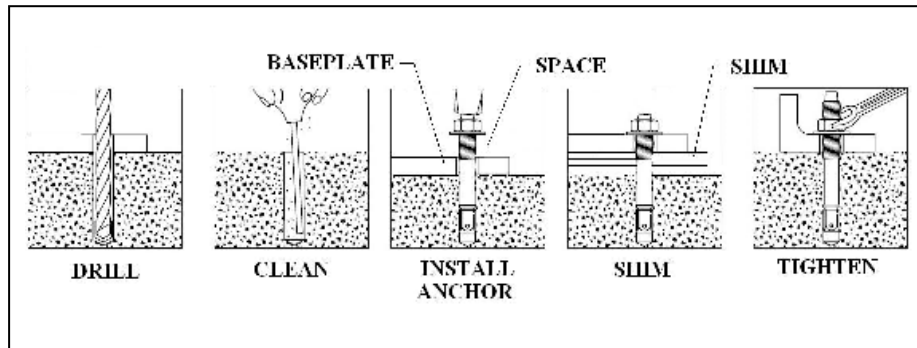

Figure 29. Anchor installation
1. Refer to **Figure 29** while reading through these instructions.